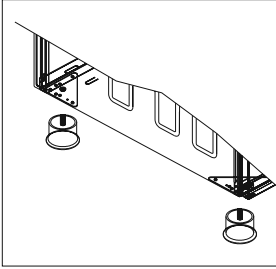
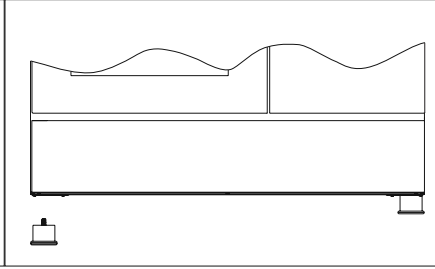

Figure 10
Figure 11
1. Foot attachment lath is installed on the oven from the bottom of the oven as shown in (Figure 10). Nuts are centered on these lathes in order to screw feet. Complete the feet installation process by screwing the feet to the nuts (Figure 11).